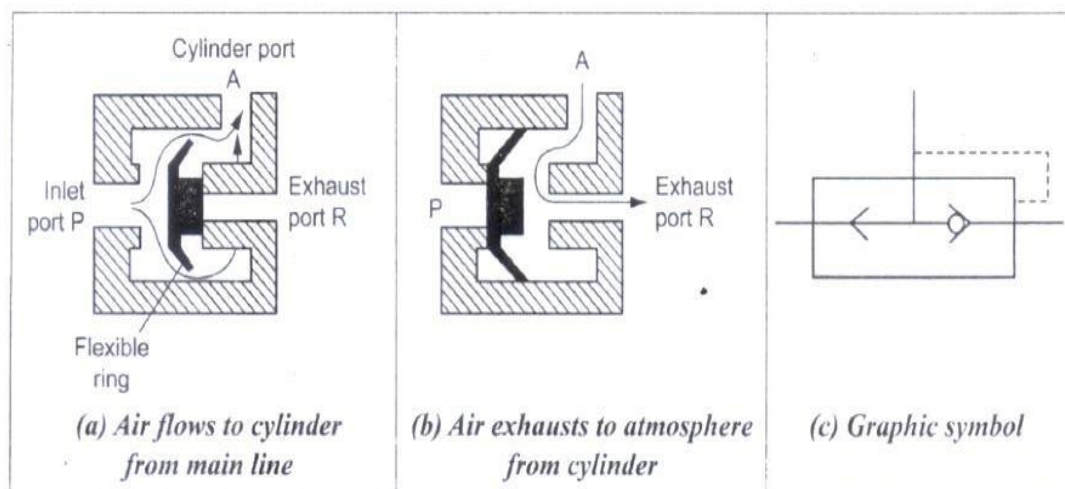

Fig.4.15. Quick Exhaust valve
The construction and operation of a typical quick exhaust valve is shown in Fig.4.15. It consists of a movable disc and three ports-an inlet port (P), and exhaust port (R), and a cylinder port (A). Its working principle is very much similar to that of a shuttle valve.
When the air flowing to the cylinder from the DC valve is applied at port P, then the flexible ring covers the exhaust port R, whereby the compressed air passes from port P to the cylinder through port A as shown in Fig.4.15(a). But the return air from the cylinder pushes the flexible ring to cover the inlet port P, whereby the exhaust air immediately expelled to the atmosphere as shown in Fig.4.15(b).